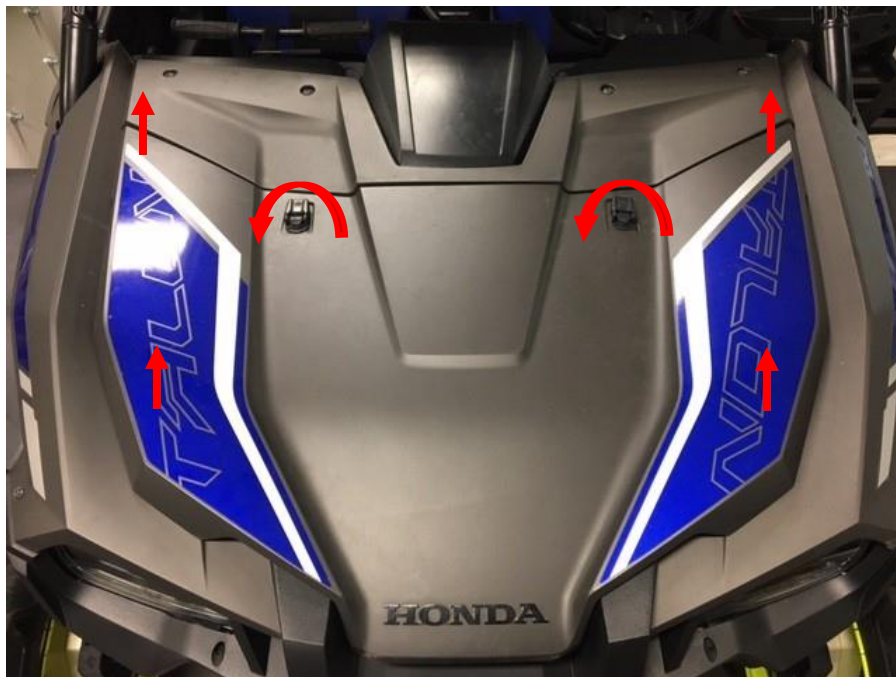
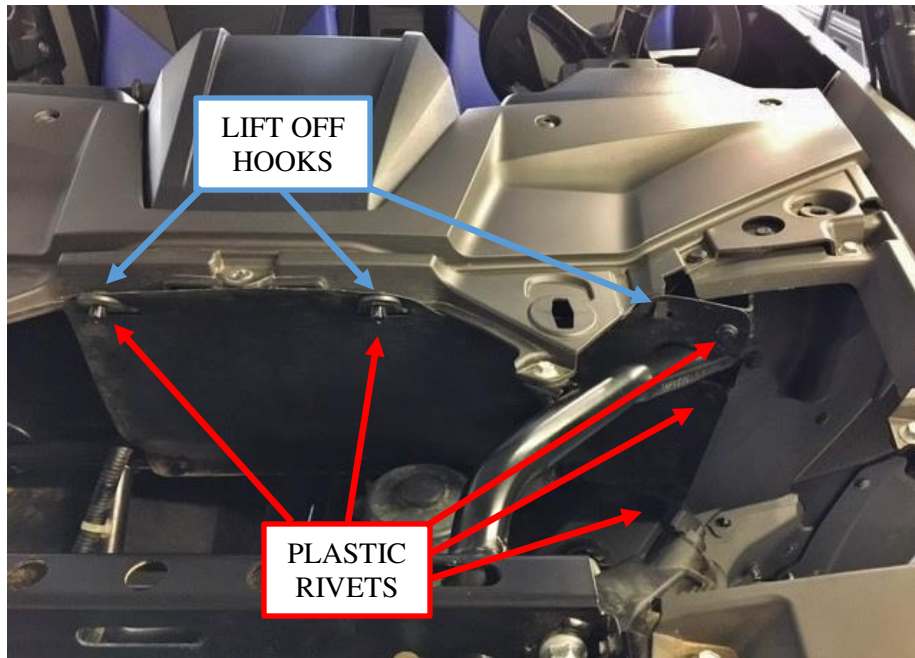

Figure 6: Remove the radiator hood access panel.
Figure 7: Remove the rivets to fold the rubber splash shield.
6. Remove the front hood from the front of the vehicle by lifting and rotating the lock knobs, lifting to release the 4 bosses, and sliding towards the front of the vehicle. See Figure 6.
7. Fold down the rubber splash shield under the hood by popping out five of the plastic rivets and lifting it off of the three hooks. The plastic rivets are released by first prying the center head up, then pulling the entire rivet out. See Figure 7.
17. Reinstall the plastic rivets to secure the rubber splash shield, and reinstall the hood. See Figure 6 and Figure 7.